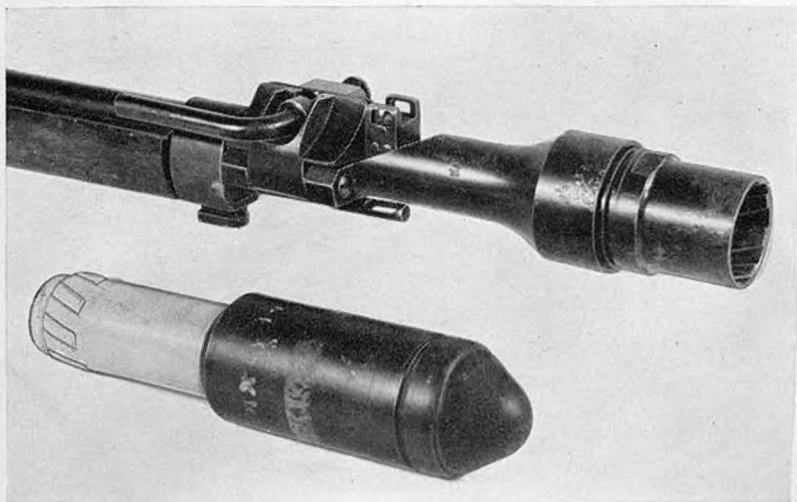
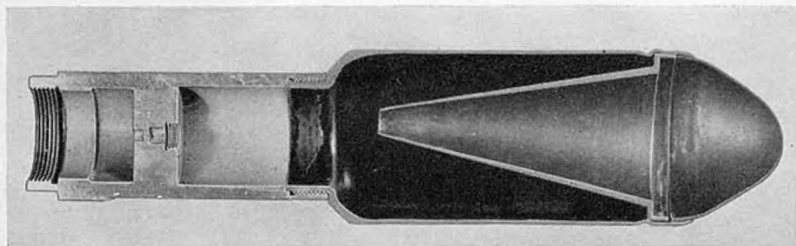

Figure 22.—Armor-piercing rifle grenade and cup-type grenade launcher. (The grenade in this illustration corresponds to the German *gr.G.Pzgr.* type.)
Figure 23.—Cross section of armor-piercing rifle grenade, showing hollow charge. (This grenade corresponds to the German *gr.G.Pzgr.* type.)
(2) *Grenade launchers*.—(a) *General*.—There are two types of rifle-grenade launchers—a cup type and a spigot type. The cup-type launcher (fig. 22) is fitted over the muzzle and locked over the front sight of the rifle. It has a short, rifled barrel, and is a faithful copy of the German cup-type launcher (*Schiessbecher*) used to fire the German rifle grenades *G.Pzgr.*¹⁴ and *gr.G.Pzgr.*¹⁵
(b) *Cup-type*.—The armor-piercing grenade (fig. 22) for this cup-type launcher works on the hollow-charge principle (fig. 23)¹⁶ and is a copy of the Ger-
¹⁵ *Grosse Gewehr-Panzergranate* (see figs. 22 and 23).